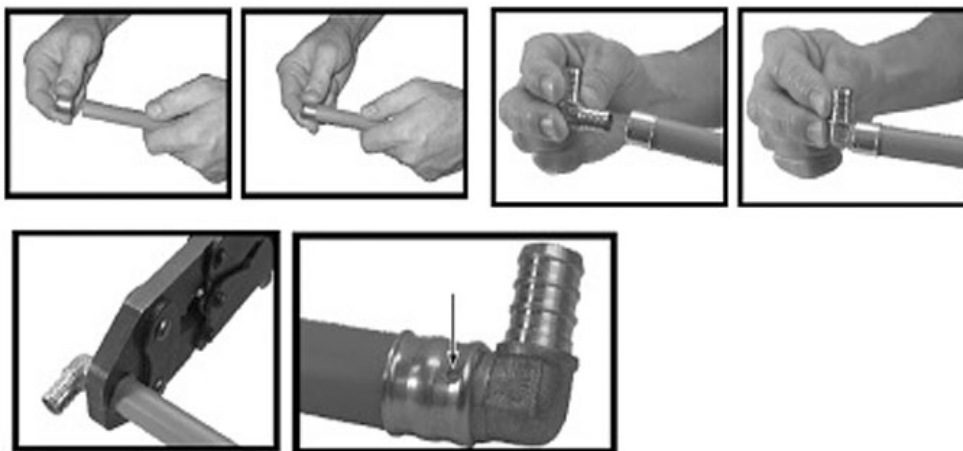

Figure 1-3. Sleeve tool.
5. Visually inspect the completed connection. If the pipe can be seen from the view hole on the side of the sleeve and a "W" shaped crimp has been formed around the sleeve, then a good connection has been made (fig. 1-3).